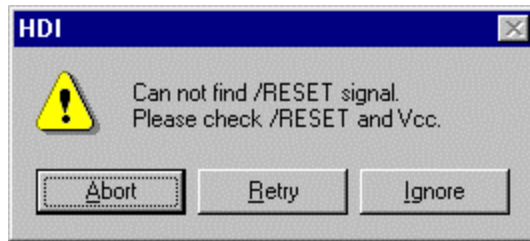

Figure 2.12 [Can not find /RESET signal] Dialog Box
3. If the emulator is not initiated, the following dialog boxes shown in figures 2.12 through 2.16 will be displayed.